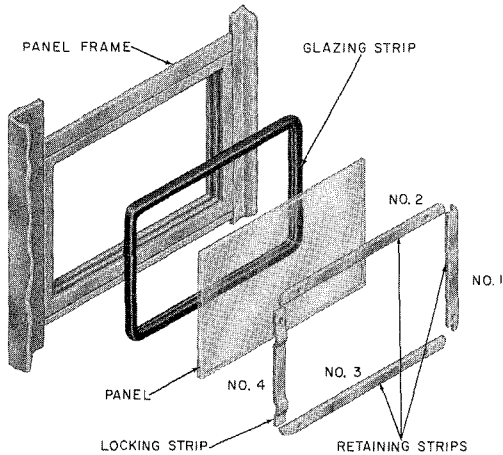

Fig. 20—Assembly of Side or Rear Panels
4.06 Booth panels and signs are held in place by four interlocking retaining strips. They are inserted in sequence as shown in Fig. 20. The No. 4 strip is rippled and is held in place by interface friction.
- (7) Replace retaining strips in sequence as shown in Fig. 20.
4.11 After roof is removed, the side and rear signs are removed in the same manner as the side panels (see 4.07 and Fig. 20).